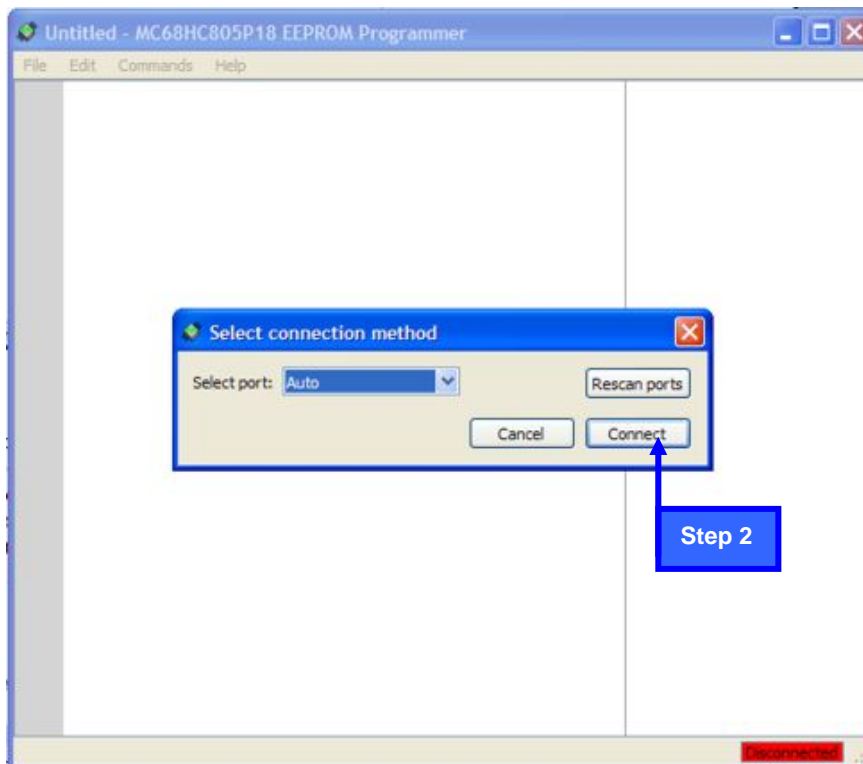

Figure 3
Step 2; Figure 3
And press the “connect” button; Figure 3